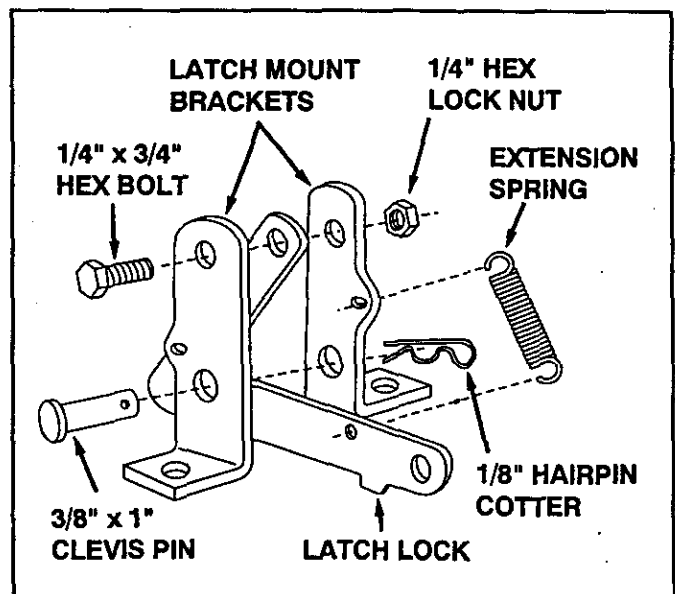

FIGURE 1
- Assemble the latch lock between the latch mount brackets using a 1/4" x 3/4" hex bolt and a 1/4" hex lock nut. Tighten so that the latch lock can still pivot. Attach the extension spring to the latch lock and the latch mount bracket as shown in figure 1.
- Insert the 3/8" x 1" clevis pin through the holes in the latch mount brackets and secure with a 1/8" hairpin cotter. See figure 1.
IMPORTANT: Leave the latch lock clevis pin in place at all times while using the cart as a push cart. The clevis pin is shown in figure 1 on page 4.